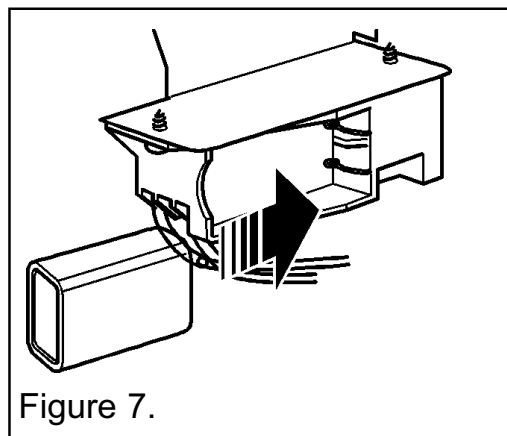

Figure 7.
2. Fit the replacement **alkaline** battery to the ignition block (See figure 7). The +ve and -ve terminal positions are marked on the end of the battery holder body and inside.